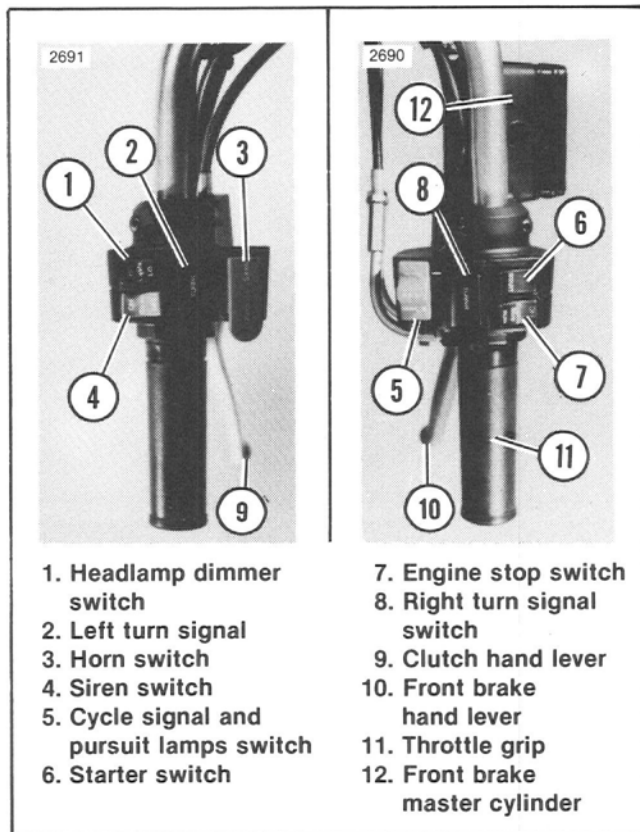
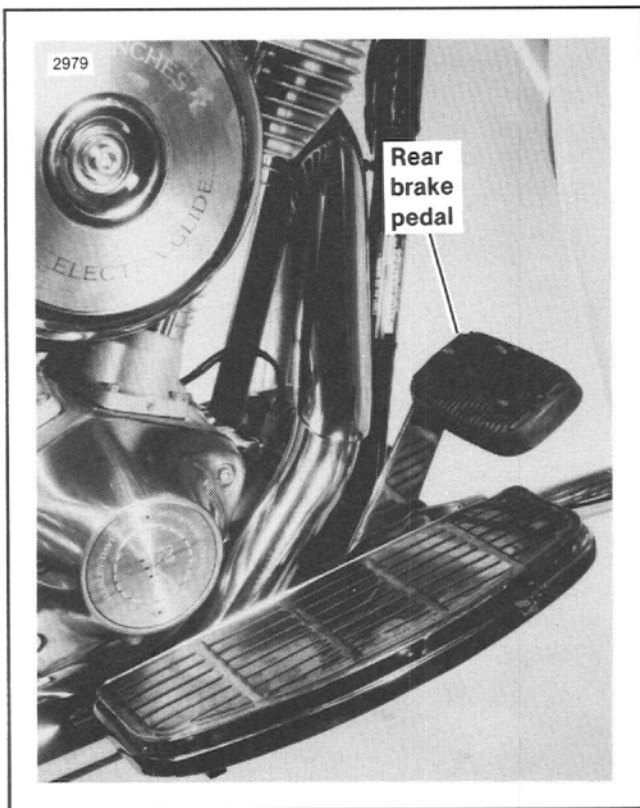

Figure 9. Handlebar Controls
Figure 12. Rear Brake Pedal — FLHTP
See Figure 9. The starter switch (6) is located on the right handlebar. With ignition on, engine stop switch (7) in "RUN" position and transmission in neutral, push switch to operate starter motor.
See Figure 9. Switch (7) on right handlebar turns ignition on or off and should be used at all times to stop the engine, especially in an emergency. To stop engine, push switch to position marked OFF. Turn ignition/light switch to position marked OFF and remove key before parking or leaving vehicle.
See Figure 9. The throttle control grip (11) is located on the right handlebar control group. Turn control grip clockwise to close throttle; turn control grip counterclockwise to open throttle.
See Figure 9. The clutch hand lever (9) is located on the left handlebar where it may be easily operated with the fingers of the left hand. Pull lever in against handlebar grip to disengage clutch; release the lever slowly to its outward position to engage clutch.
See Figures 12, 13. The brake pedal controls the rear wheel brake and is located on the right side where it is operated by the right foot. See Figure 9. The brake hand lever (10) controls the front wheel brake and is located on the right handlebar, where it is operated by the fingers of the right hand.
See Figure 9. Right handlebar turn switch (8) operates the right front and right rear flashing lamps. Left handlebar turn switch (2) operates the left front and left rear flashing lamps. Front turn signal lamps also function as running lamps.
See Figure 9. The headlamp dimmer switch (1) on the left handlebar controls the headlamp high and low beams.
See Figure 9. The siren switch (4) is located on the left handlebar. The siren switch is used in combination with the horn switch (3) to activate the siren. The three procedures for operating the siren are as follows:
See Figure 9. The horn is operated by the horn switch (3) on the left handlebar. Refer to the SIREN SWITCH pre-
See Figure 9. The cycle signal and pursuit lamps switch (5) is located on the right handlebar. The two procedures for operating this switch are as follows: